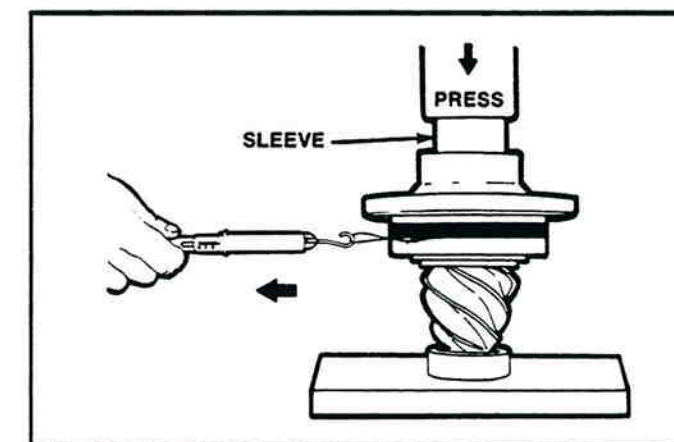

Figure 2-44. Checking Pinion Bearing Preload.
2. Install a sleeve of the correct size against the inner race of the outer bearing (Figure 2-44).
- Pull the cord with scale on a horizontal line. As the bearing cage rotates, read the value indicated on scale. Make a note of reading (Figure 2-44).